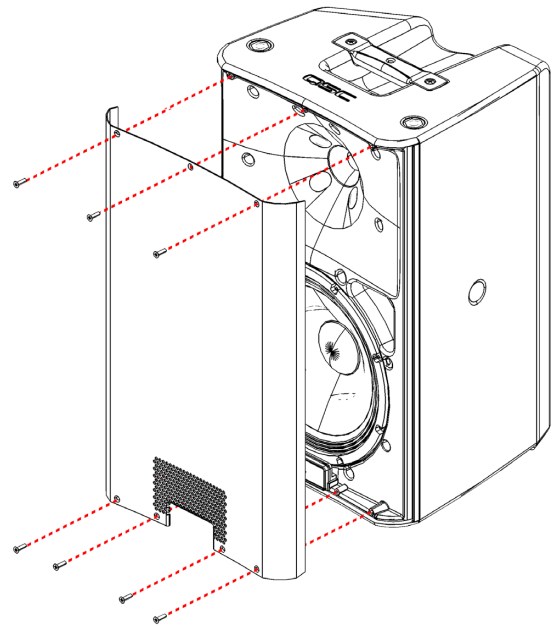

Figure 5.2.1 - Front grille assembly
1. Remove the 7 screws that attach the front grille to the baffle as shown in Figure 5.2.1.